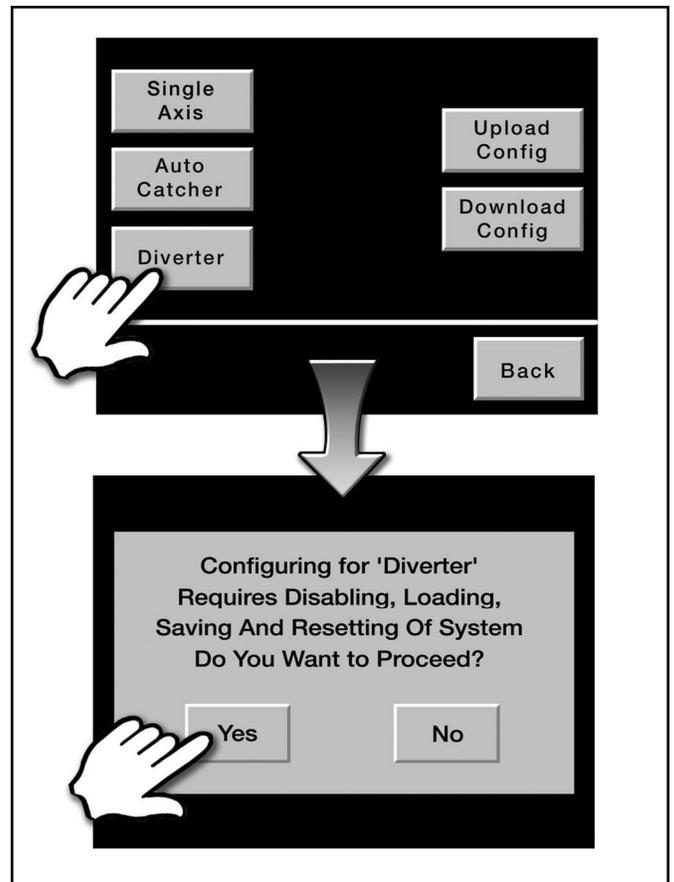

Figure 6.12 - Machine Screen - Changing Applications
(See Figure 6.12)
1. **"Application" Buttons** – These buttons are used to load pre-programmed applications in to the servo-amplifier and HMI. The selection of pre-programmed applications will vary from system to system depending on your specific needs. The sample screen shown in Figure 6.12 has three applications to choose from: **Single Axis, Auto Catcher and Diverter**.